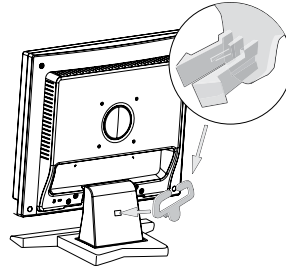

Figure 2
1. Insert the tabs of Cable Holder into the hole of stand neck (**Figure 2**).